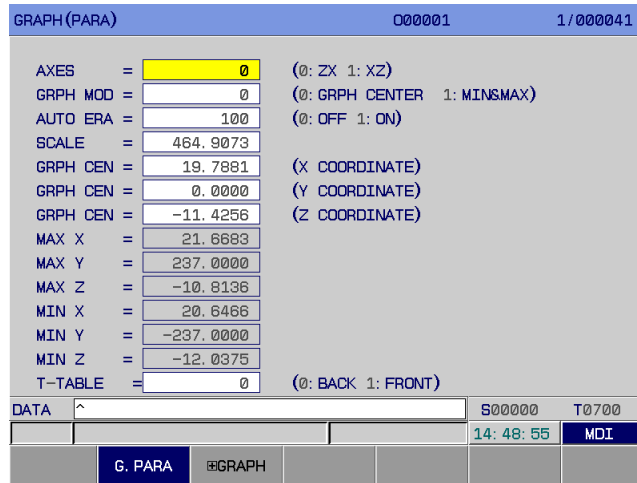

Fig.3-5-1
1) Graphical parameter interface: Press [graphical parameter] to enter the graphical parameter interface, as shown in Fig.3-5-1.